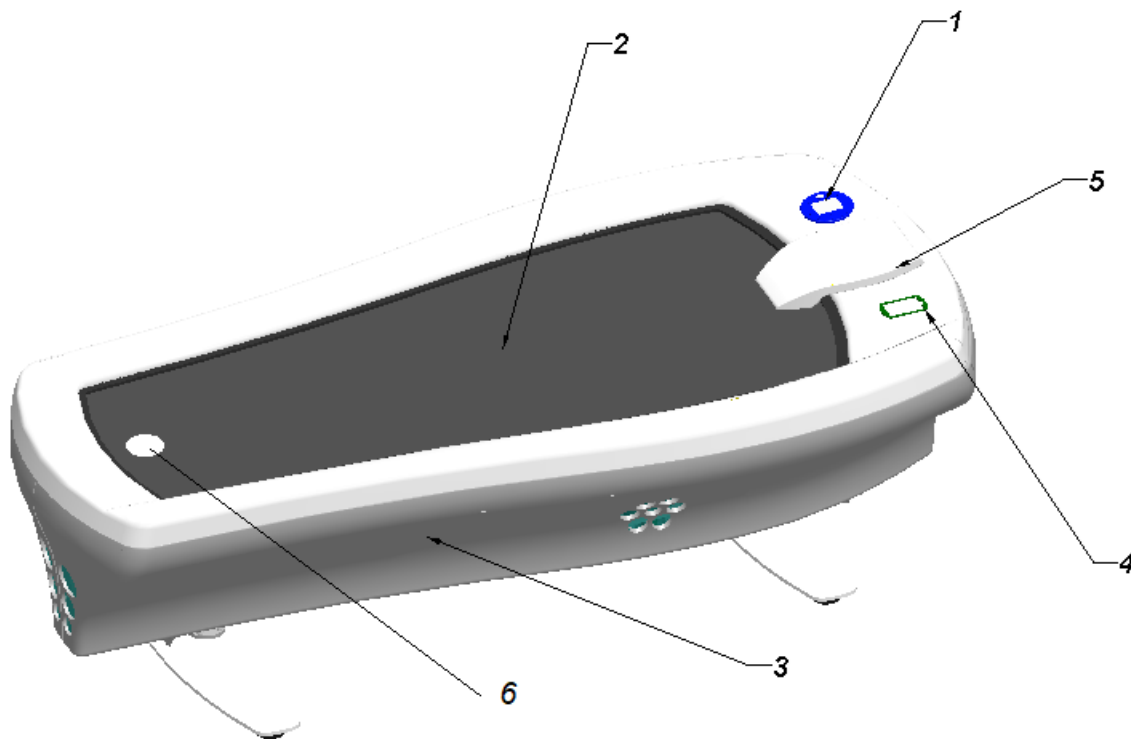

Figure 1 - View of the AQUAI device
When filling, discharging, or refilling water, unscrew the vent cap (item 6, Figure 1), which will allow excess air to escape from under the diaphragm. Unscrew the vent cap until it stops lifting and rotates freely. The cap is secured against complete unscrewing.